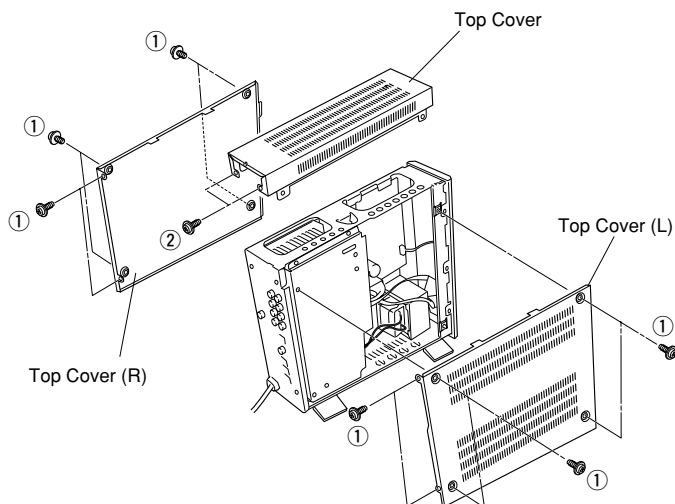

Fig. 1
Remove 14 screws (❶ and ❷) and then remove the Top Covers in Fig. 1.